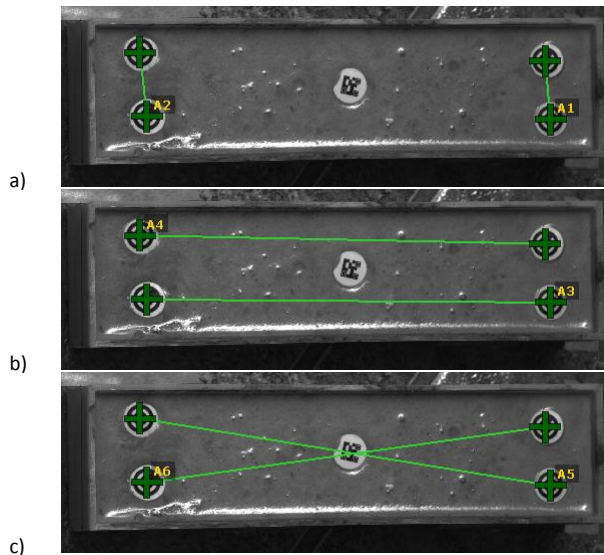

Figure 53: Automatic pairing types – a) shortest, b) optimal and c) longest.
- **Automatic Pairing** – Type of automatic pairing of detected markers. It determines the desired length of resulting extension lines as shown in Figure 53. Note, that only specific cases of